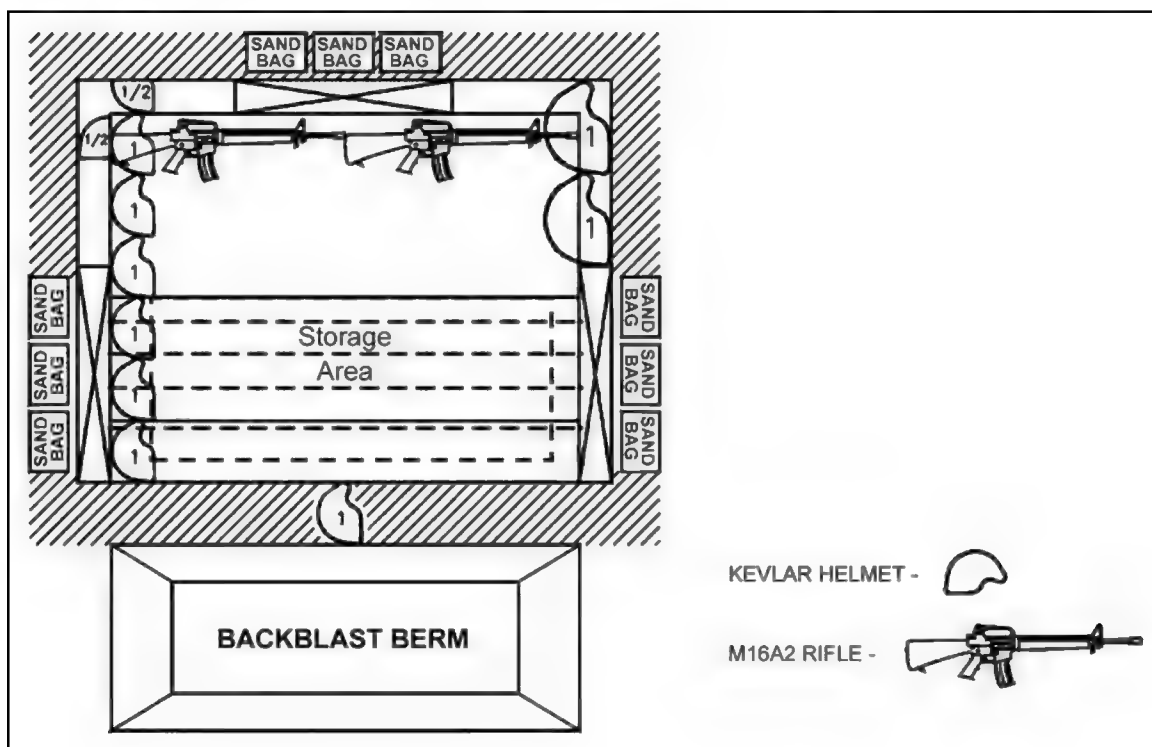

Figure 4-17. Top view of a Javelin defensive fighting position.
(3) **Top View.** Figure 4-17 shows the top view of a Javelin defensive fighting position.